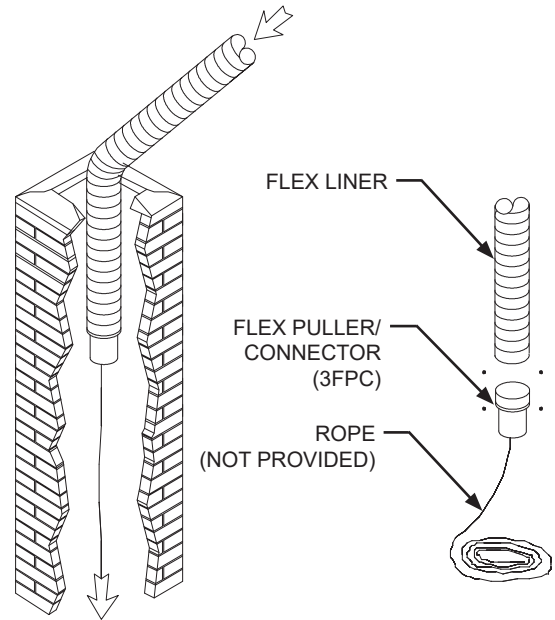

FIG. 2
Step 2. Insert a rope through the end of the Flex Connector and tie a knot at the end of the rope. Attach the Flex Connector to the Flex Liner using four sheet metal screws as shown (See **FIG. 2**). Carefully feed the liner down the chimney (masonry or zero clearance) and out through the damper. One person should feed the liner through the chimney bottom.